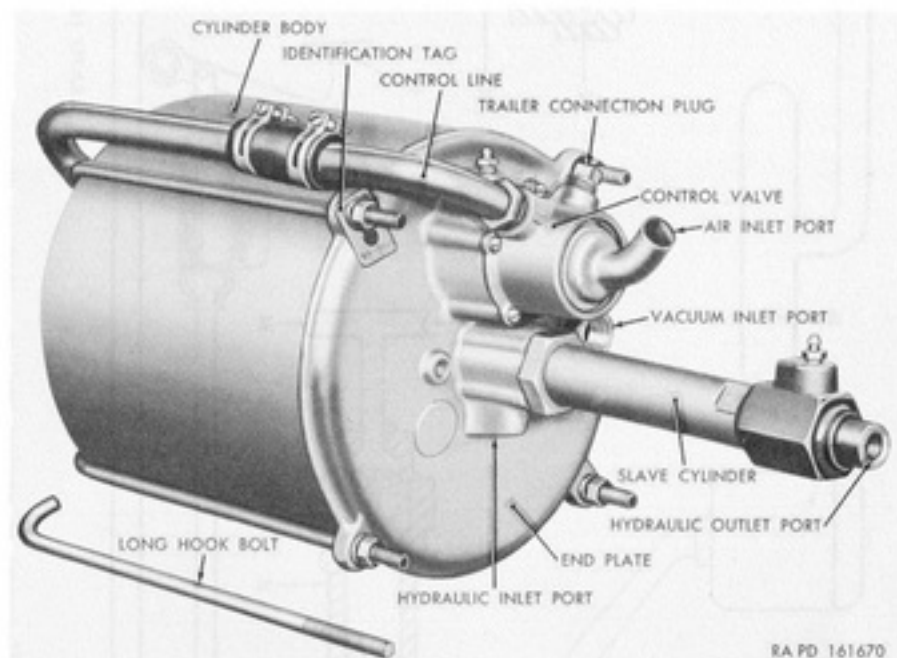

Figure 145. Vacuum-hydraulic power cylinder (third series Hydrovac)—slave cylinder end view.
a. General. The vacuum-hydraulic power cylinder (third series Hydrovac Model HS32-13-110), shown in figures 145 and 146, is a self-contained power brake unit consisting of a single piston vacuum power cylinder, a hydraulically actuated control valve, and a hydraulic slave cylinder. The principal differences between the third series Hydrovac and the second series single piston Hydrovac (ch. 10) are in the size of the unit; the hydraulic piston in the slave cylinder is attached to the push rod of the power piston; no hydraulic piston return spring is required; and the relay piston operates in a removable sleeve in the end plate.